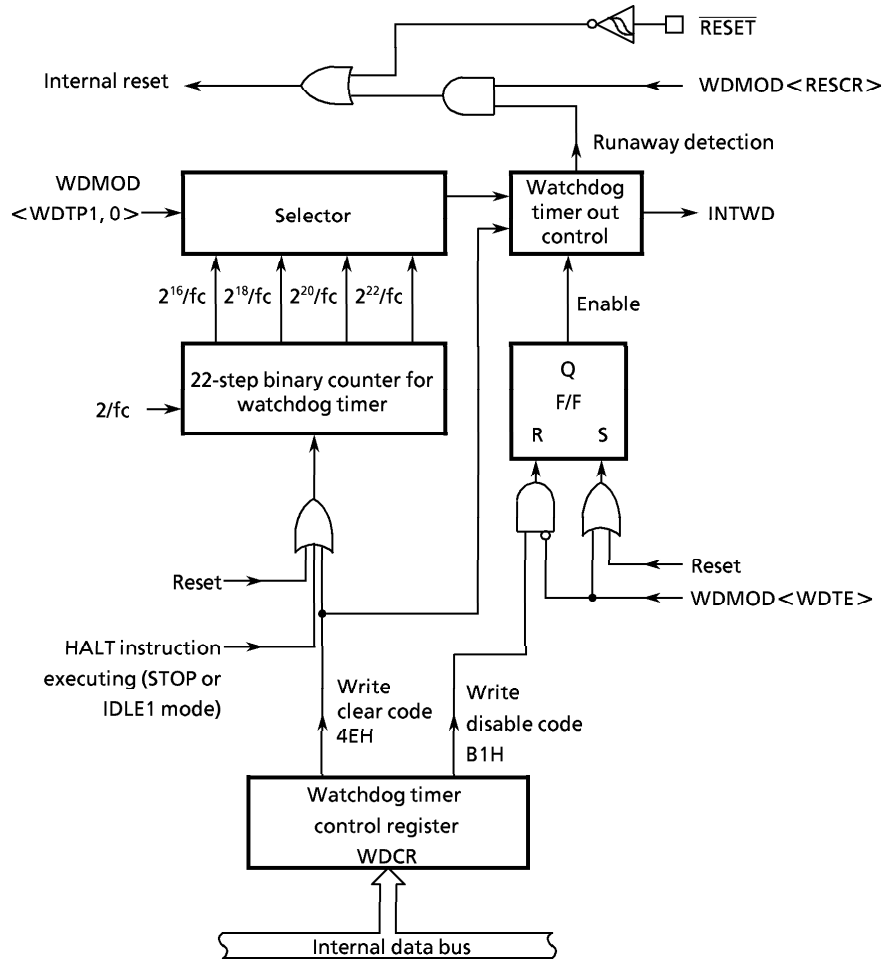

Figure 3.12 (1) Watchdog Timer Block Diagram
TMP95CS64/265 incorporates a watchdog timer for detecting a runaway (out-of-control) condition. The watchdog timer (WDT) returns the CPU to its normal state when it detects the start of a CPU runaway due to, for example, noise. When the watchdog timer detects a runaway, it generates an INTWD (non-maskable) interrupt to notify the CPU of the condition. In addition, the runaway detection result can be used for a forcible reset of the microcontroller itself. The watchdog timer consists of a 22-step binary counter with  $2/f_c$  as the input clock, and a control block. Figure 3.12 (1) is a block diagram of the watchdog timer (WDT).